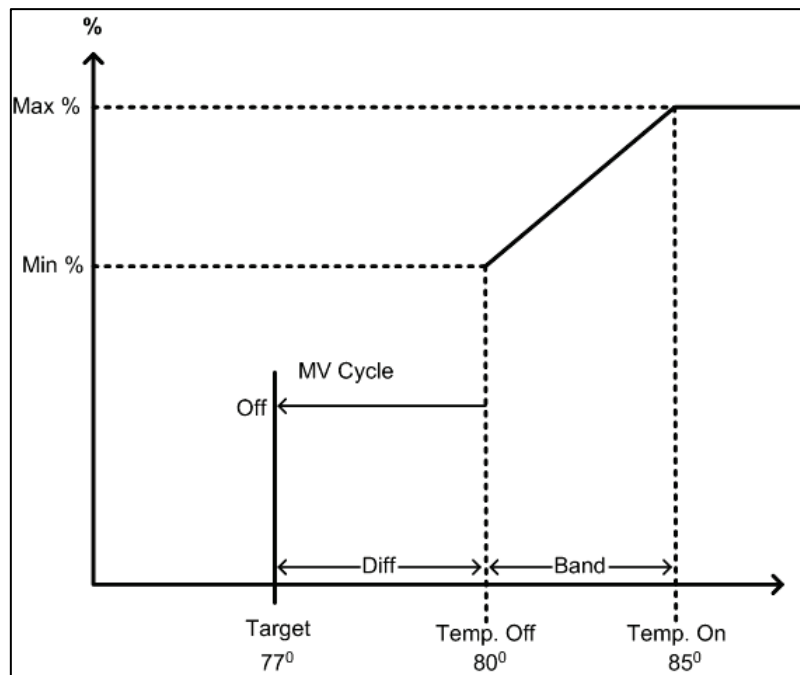

Figure 5: Minimum Ventilation
Figure 5 illustrates the ventilation modes.
In Figure 5:
- When the temperature begins to decrease, the fans remain at the same cycle until the temperature reaches the off temperature. For example, in Figure 5 if the fans are running continually when the temperature drops to 80°, they continue to run continually until the temperature reaches 75°. If the temperature is 78° when the temperature begins to drop, the fan cycle remains the same until the temperature reaches 75°.